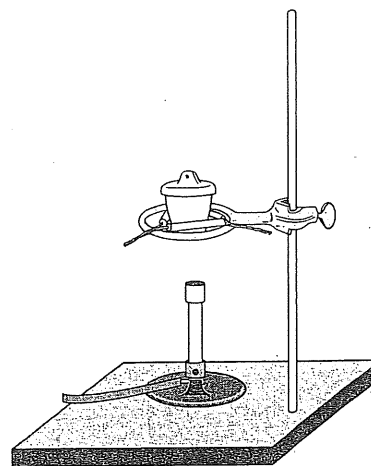

Figure 1.
1. Set up a Bunsen burner on a ring stand beneath a ring clamp holding a clay pipestem triangle. (See Figure 1.) Do NOT light the Bunsen burner.
7. Place the covered crucible with its lid on the clay triangle as shown in Figure 1. Light the Bunsen burner and brush the bottom of the crucible with the flame for 2–3 minutes to slowly heat the crucible and its contents.